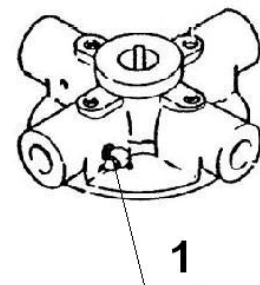

Fig. 7
Before starting the machine daily, lubricate the cross with a grease gun (item 1 fig. 7).